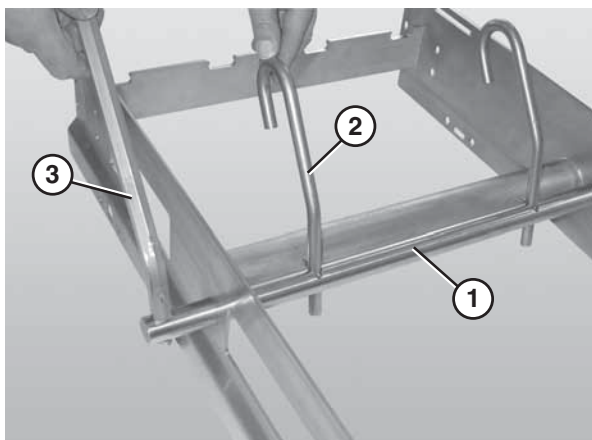

Figure 30
1. Slide the belt lift pivot bar (Figure 30, item 1) through the designated holes in the frame.
2. Attach the lifter bars (Figure 30, item 2) to the belt lift pivot bar (Figure 30, item 1). Make sure the hooked ends of the lifter bars are facing down when resting against the frame.
3. Attach the lifter handle (Figure 30, item 3) to the belt lift pivot rod.